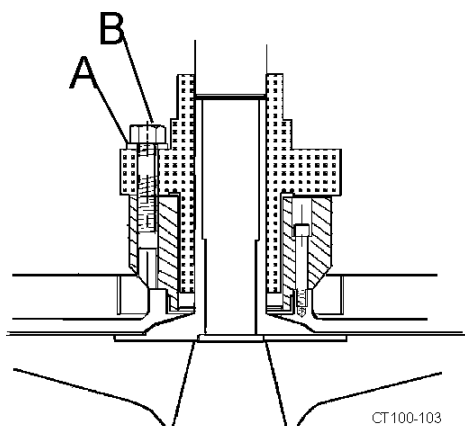

Figure 36 - Fasten Seal Unit in Place
7. Install the cartridge seal unit and use retaining bolts (Figure 36, item B) and flat washers (Figure 36, item A) to secure unit to the cartridge adapter. Make sure to not tighten the retaining bolts yet.